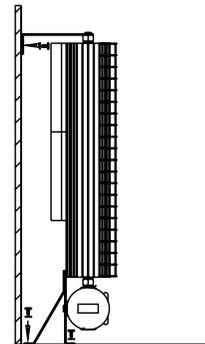

FIGURE 8 - ATTACH HEATER TO FLOOR AND WALL
Step 3: Lift top of unit and position heater vertically against the wall. Secure stabilizing and floor mounting brackets to the mounting surfaces (Figure 8).